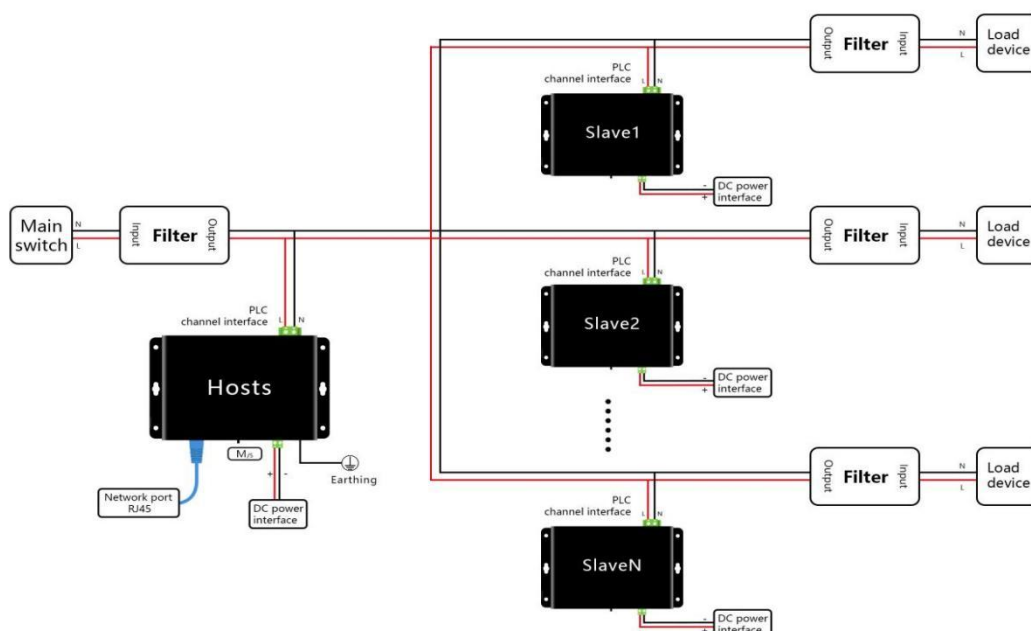

Figure 2
2、Wiring diagram of one master and multiple slaves, as show on figure 2: